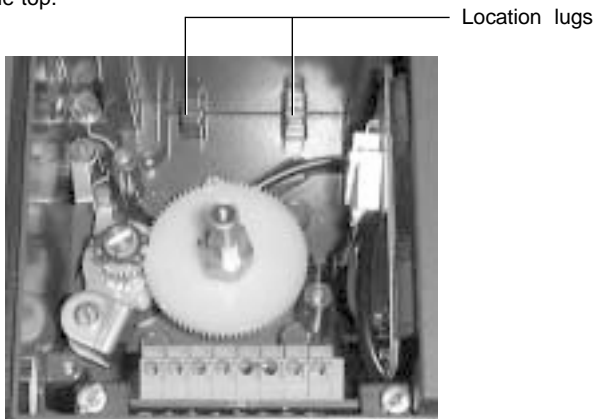

Fig. 10
2.3.10 Loosen the option board plastic retaining clamps. Now locate the options board within the SP2 enclosure ensuring it is correctly located within the lugs at the bottom of the housing (refer to Fig. 10). **Note:** the options board should be located with terminal connectors at the top.